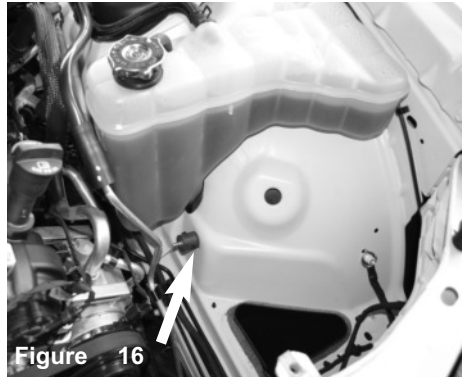

Figure 16
Turn the steering wheel to the left. This will give you access to the outer wheel well to secure the M6 nut to the vibramount from figure 16. No wrench necessary, just turn the vibramount until it's snug.
(A) Align the front heatshield tab to the bracket on the front radiator support. A vibramount will be used to secure them together in the next step. (B) Align the hole in the back of the heatshield to the vibramount from figure 16.
(A) Once the heatshield is aligned, place a vibramount onto the front heatshield bracket to secure it to the bracket on the front radiator support. (B) Use a M6 nut to secure the back of heatshield to the vibramount from figure 16.